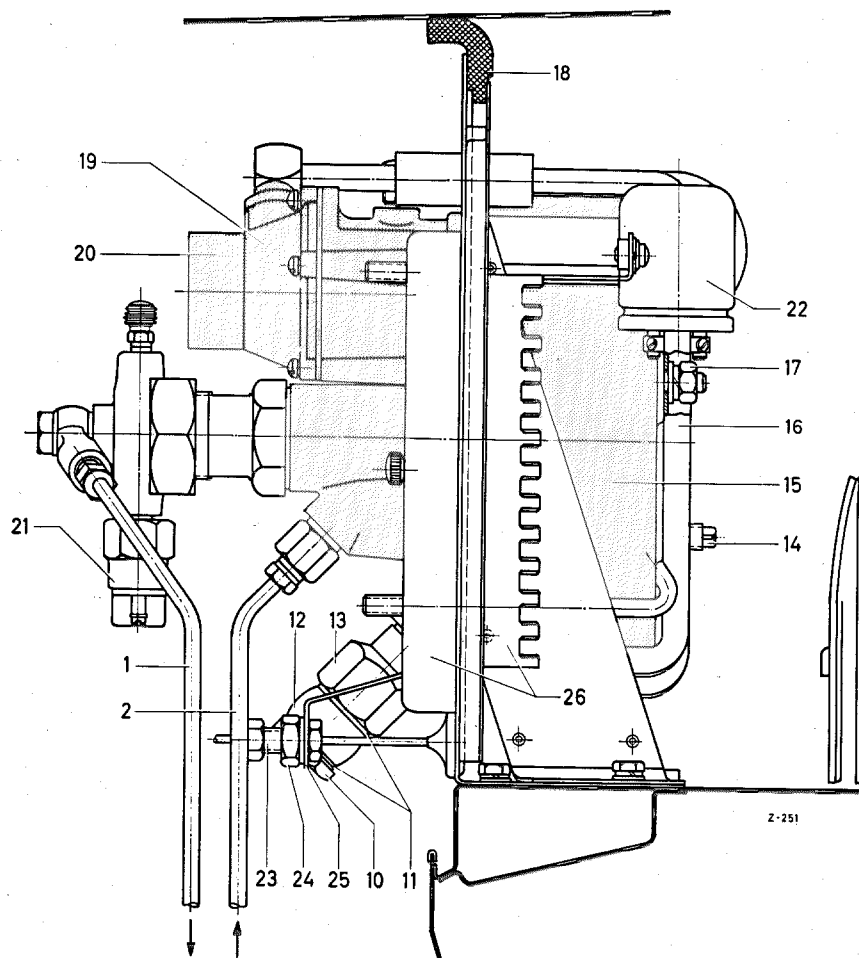

Fig. 42 — 14/1
1. Unscrew the two brake lines (1) and (2) at the power brake.
2. Disconnect the vacuum hose at the annular nipple (12) of the power brake.
Note: On the recent version of the ATE Power Brake the stop light switch (21) is no longer screwed into the brake master cylinder but into the ATE Power Brake (see Fig. 42—14/1).
4. Unscrew the hexagon nut (17) at the rear of the power brake, remove lock washer, washer and fixing clamp (16), and pull out the power brake from the panel (18) toward the front.
Recent models of the ATE Power Brake T 50 are provided with a special connection (plug and sealing ring) at the control valve tube connection (9) in order to facilitate the fitting of the vacuum gage (see Fig. 42—15/6).